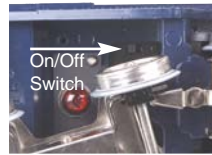

Fig 4
- If you choose not to add the fluid (or have already added the fluid but choose to run smoke-free), turn off the smoke unit switch located under the cab (see Fig. 4). **Failure either to add fluid to the unit or to turn it off may damage the smoke unit heating element and/or wicking material.**